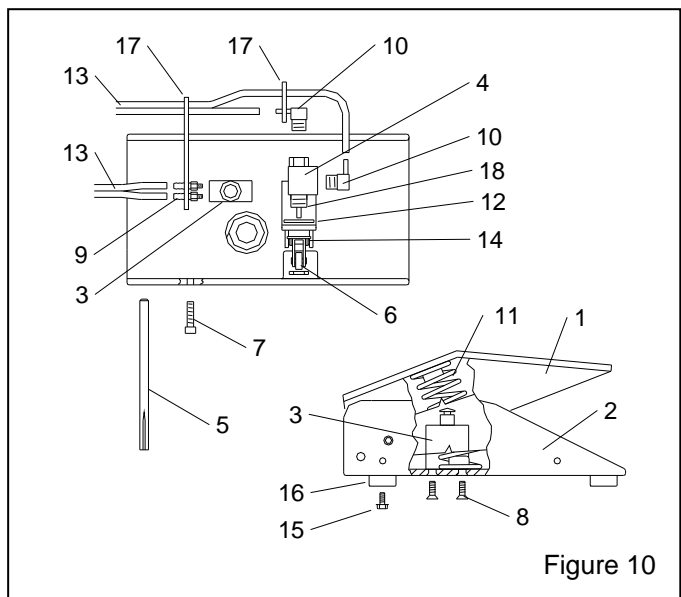

Figure 10
**9.3 Foot Pedal Assembly, Figure 10**